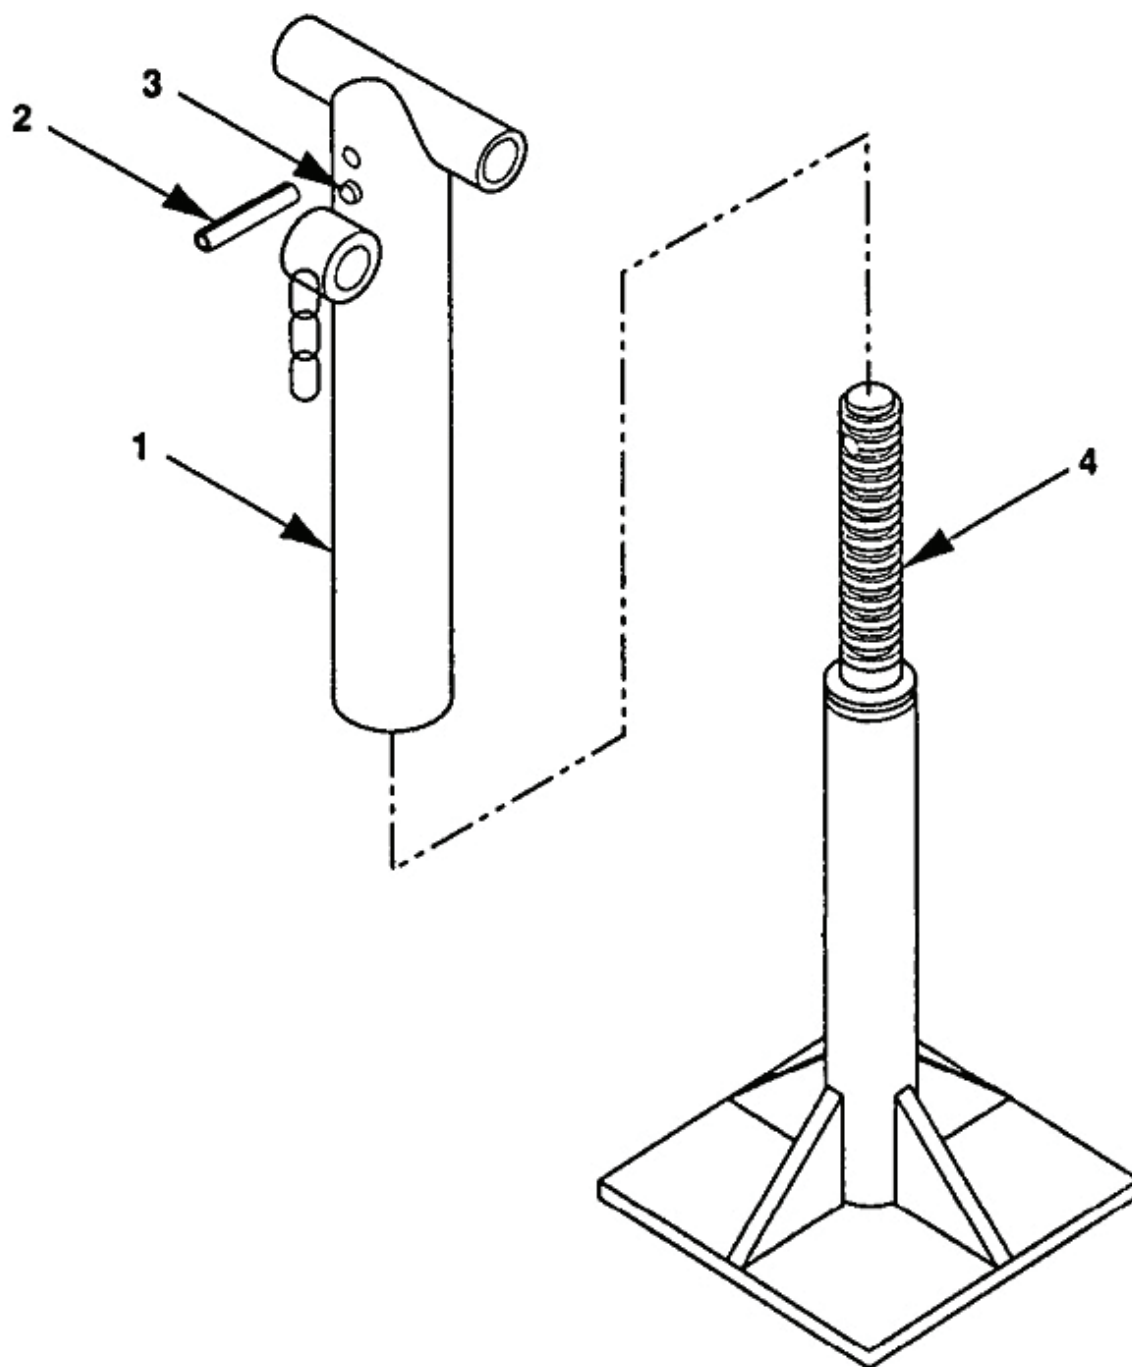

Figure 4-27. Leveling -Support Jack Repair, 1 Ton Trailer.
- a. Clamp leg assembly in a vise with spring pin (2, figure 4-27) facing up.
- b. Drive the spring pin (2) out of upper leg (1) and remove leg base (4).
- c. If defective, remove lubrication fitting (3).